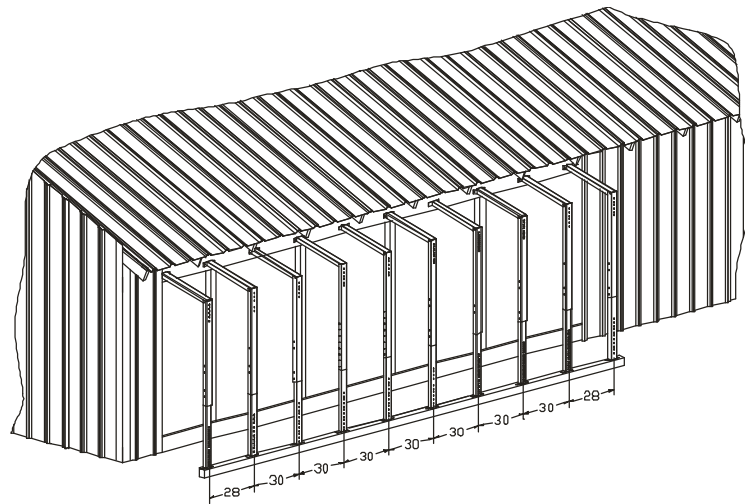

Figure 5
6. Install the support sections as shown in Figure 5. The vertical legs should be plumb before attaching the support top to the wall.